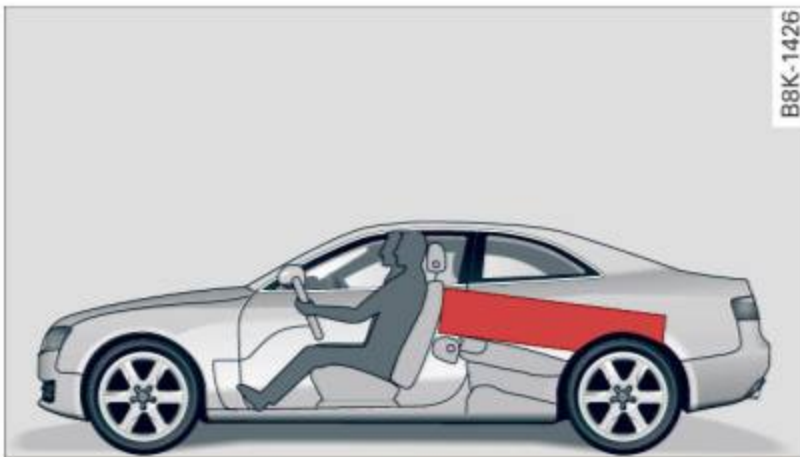

Fig. 129 Safe load positioning: place heavy objects as low and as far forward as possible.
- ▶ Always place and properly secure heavy items in the luggage compartment as low and as far forward as possible ⇒ *fig. 129*.